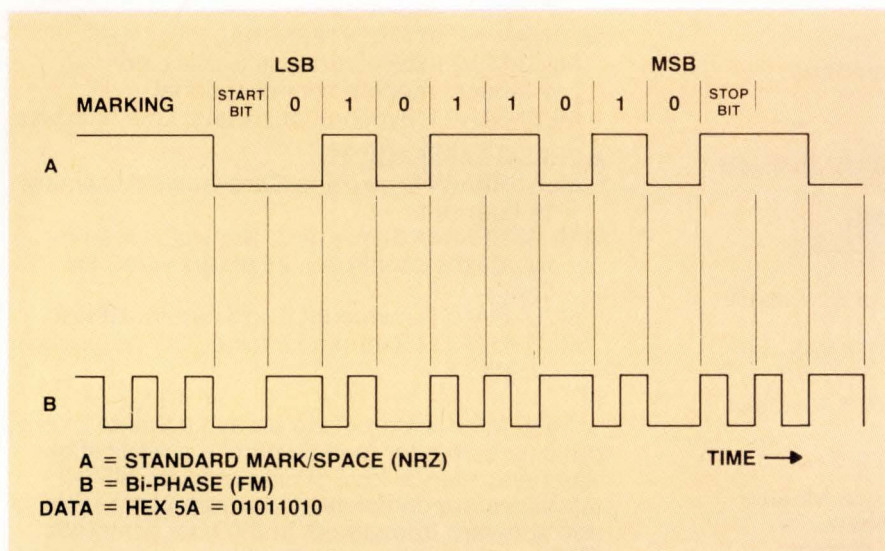
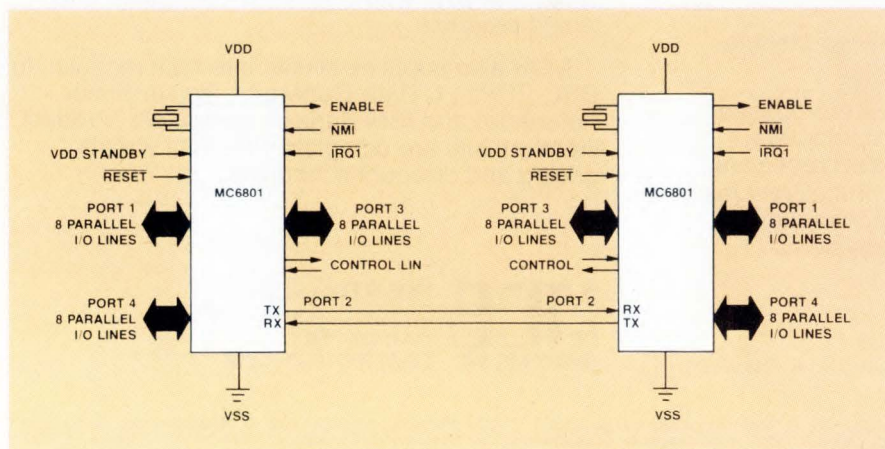

Fig 12 Serial communications interface data formats.
Fig 13 Single chip dual processor configuration — full duplex interface.
In the Bi-phase mode, the serial output toggles at the start of each bit time, and at 1/2 bit time when a 1 is sent; while in the NRZ mode, the serial output toggles only when the data changes from a "1" to a "0" or from a "0" to a "1". These data formats are shown in Fig 12.
The operation of SCI is shown in Figures 12 and 13. Figure 12 shows port 2 in operation in full duplex interface between two MC6801s'. Two lines, transmit (TX) and receive (RX) handle the serial data transfer. (Fig 6 showed parallel or byte by byte data transfer.) Figure 13 shows three MC6801 using the single line, half duplex interface. While only three 6801s are shown here, the only limitations are the electrical drive capability of the sender (which may be buffered) and addresses available.